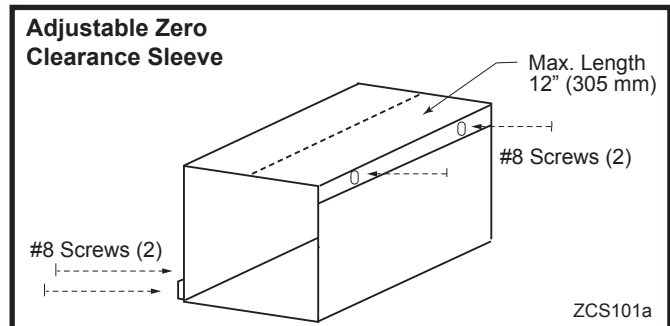
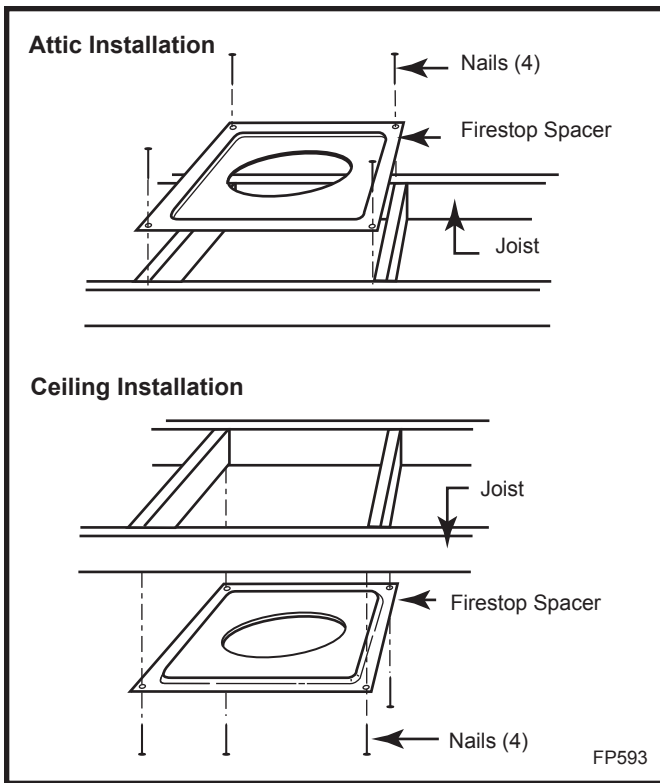

Fig. 22 Adjustable zero clearance sleeve.
Fig. 31 Installing firestop spacer.
Measure wall thickness and cut zero clearance sleeve parts to proper length (MAXIMUM 12"/305 mm). Assemble sleeve using #8 sheet metal screws (supplied). (Fig. 22) Install firestop assembly. (Fig. 31)
6. Place firestop(s) SKFS2A or Attic Insulation Shield AIS-SK into position and secure. (Figs. 31, 32)